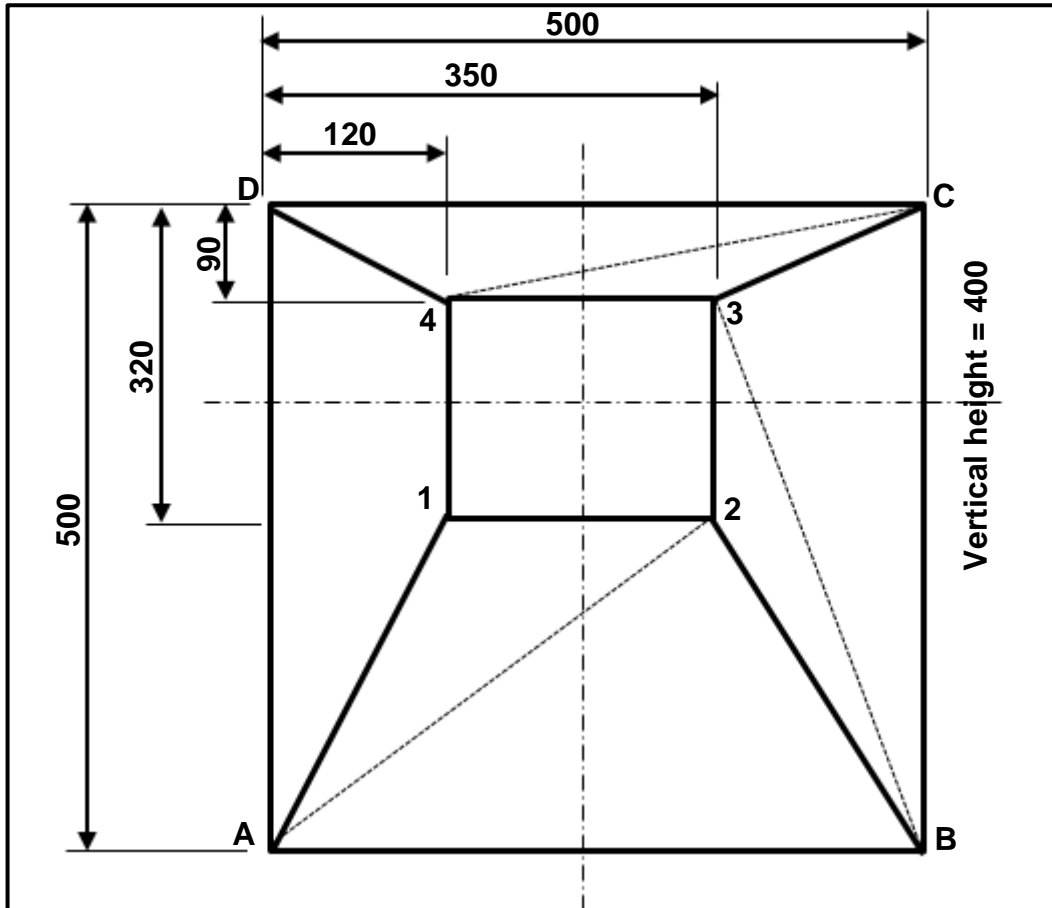

FIGURE 11.1
11.1 FIGURE 11.1 below shows a square-to-square hopper (off-centre).